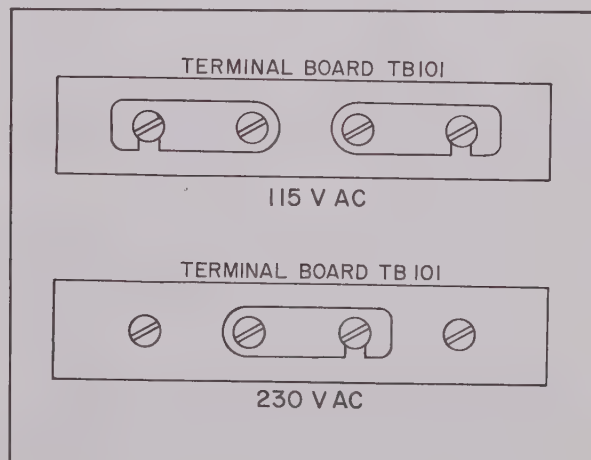

Figure 1-12. Terminal Board Connections
a. Check that terminal board TB201 and TB202 is properly connected for the power source being used. (See figure 1-12.)
- Place controls in position indicated in figure 1-12.